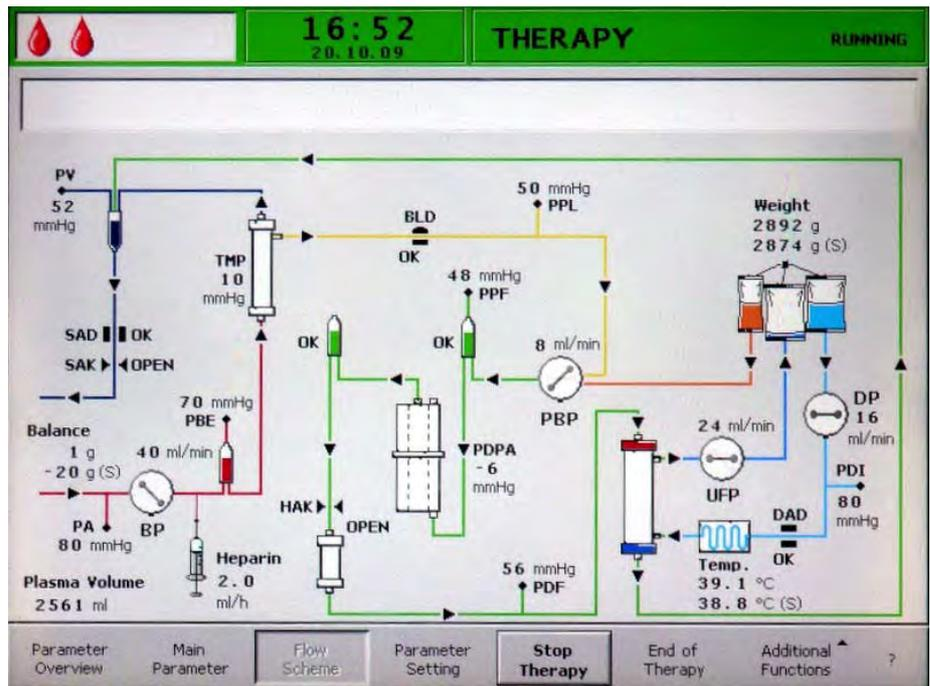

Fig. 3-13 Flow scheme screen
- Flow scheme screen (Fig. 3-13)